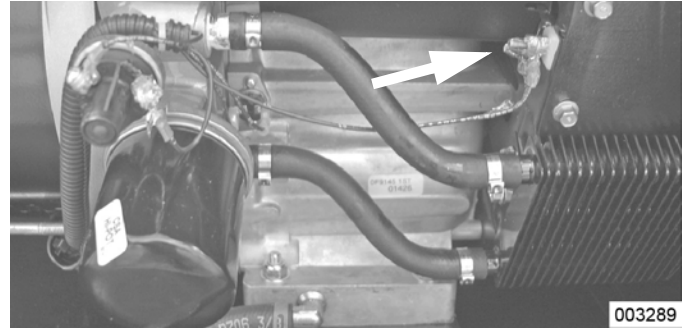
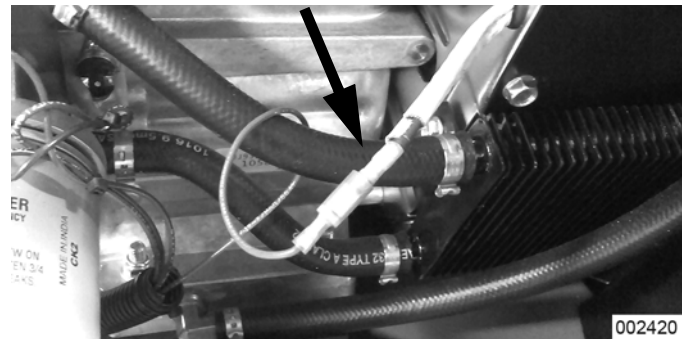

Figure 4-98. Wire 18 Connection – Nexus V-Twin Units
Figure 4-99. Wire 18 Connection Evolution V-Twin and Single Cylinder Units and Nexus Single Cylinder Units
2. See Figure 4-98 and Figure 4-99.